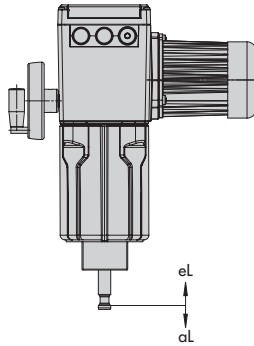

Fig. 8-3: Direction of action
Turn the handwheel (1) clockwise to move the actuator in 'aL' direction and counterclockwise to move it in the 'eL' direction (see Fig. 8-3).
- Unfold and lock the fold-away handle (2) in place.